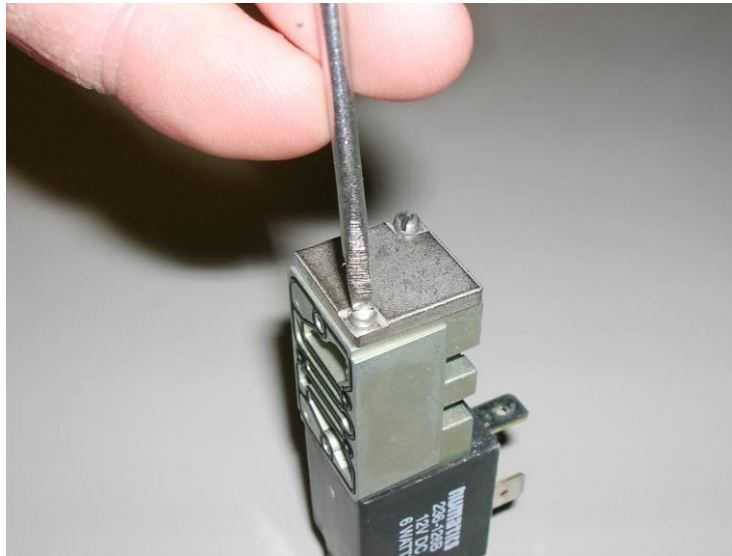

Figure 5-6
5. Carefully place the square cap onto the end, compressing the spring, and re-attach the two screws. Make the connection snug but do not over-tighten (Figure 5-6).